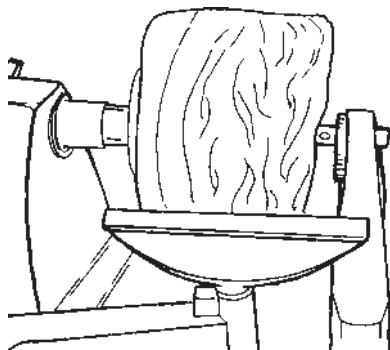

Figure C-49a
- Large, heavy stock should be turned only at very low speeds, AND with the extra support of the tailstock, as seen in Figure C-49a.
d. Turn the outside first. Adjust the height of the tool rest and align it parallel to the stock and not more than 1/4" away. When turning heavy stock mount the tool rest in the center position. Support the stock with both the main spindle and the tailstock, as shown in Figure C-49a.